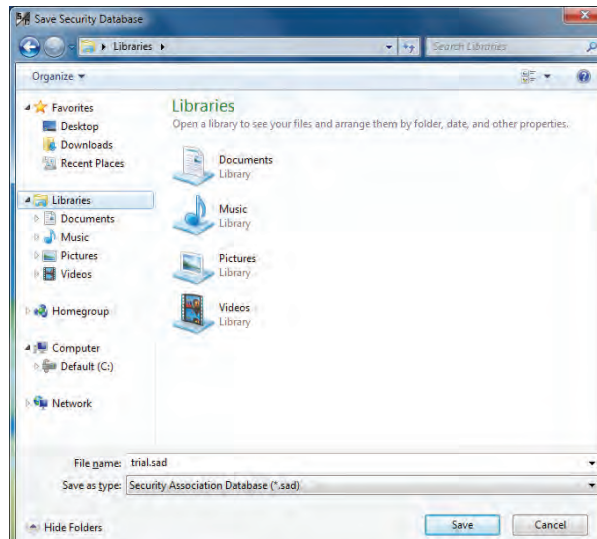

Figure 30. The Save Security Database window.
STEP 26. The **Save Security Database** window will open. See Figure 30. Enter a file name for the database, and click the **Save** button.